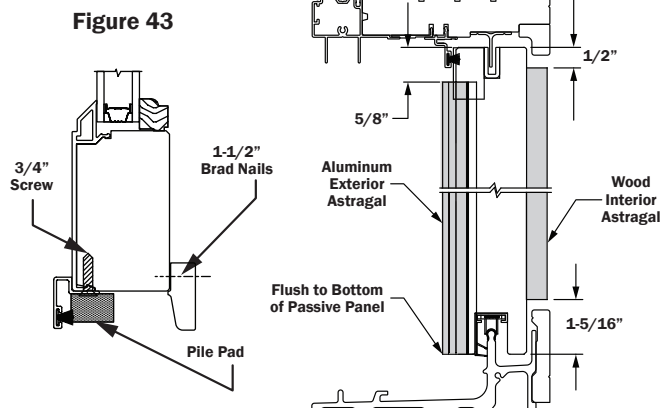

Figure 43
44. Glue wood interior astragal onto interior of passive panel, astragal should sit 1/2" from top of panel and 1-5/16" from bottom of passive panel. Attach wood interior astragal to passive panel using 18 GA x 1-1/4" brad nails 8" to 10" apart (Fig. 43).